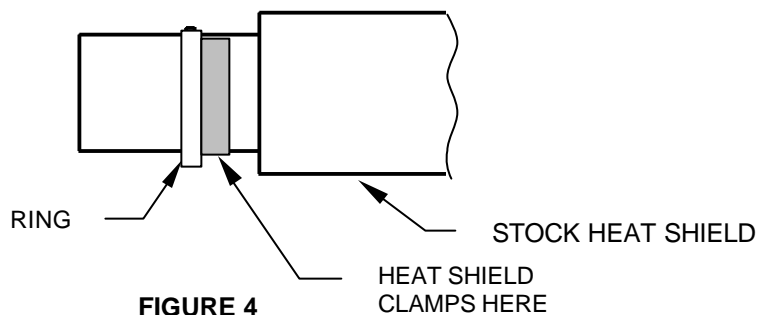

FIGURE 4
8. Slide the supplied heat shields under the stock heat shield snapping the rear of the shield onto the muffler and tighten the clamps. (NOTE: Heat shield clamp should ride in the groove between the ring on the stock pipe and the end of the stock heat shield. Refer to fig 4) It is critical the rear cylinder heat shield slides under the stock heat shield a  $\frac{1}{4}$ " for proper fitment. If the shield is slid to far forward the rear of the shield will not clamp down on the muffler properly.